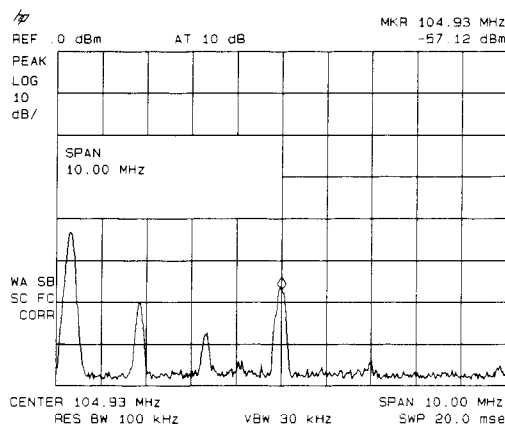

Figure 3-16. Low-Level Signal
5. Reduce the span to 10 MHz. Press **SPAN**, and then use the step-down key (**↓**). See Figure 3-16.